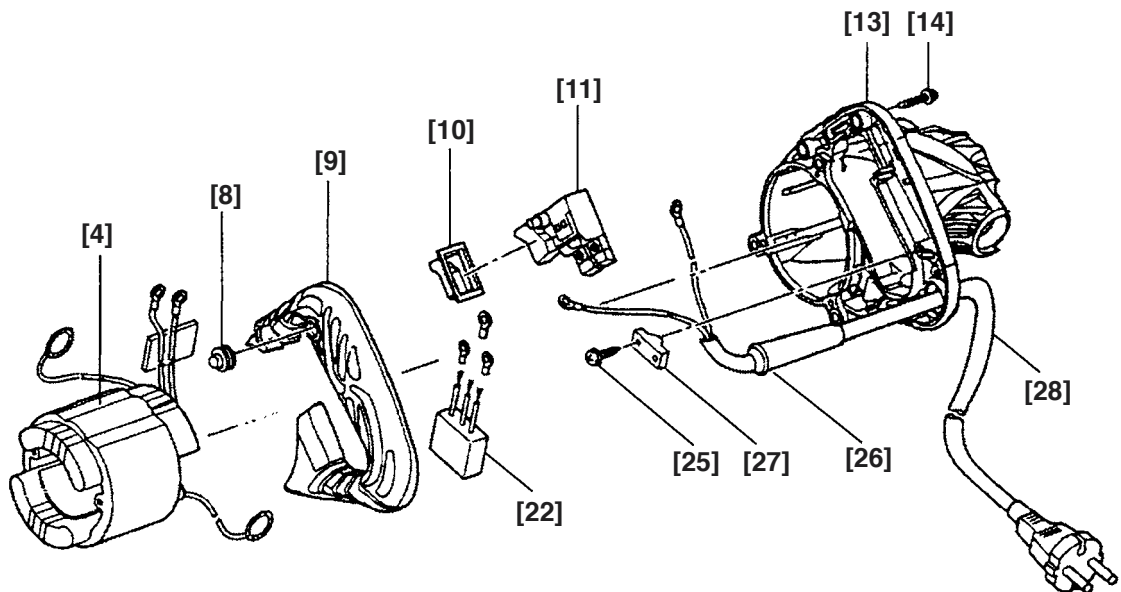

Fig. 9
(8) Disassembly of the Handle Cover [9] and the Switch (1P Screw Type) [11] (Fig. 9)
- ① Remove the three Tapping Screws (W/Flange) D4 x 20 (Black) [14] and remove the Handle Cover [9] from the Housing Ass'y [13].
- ② Loosen the small screw of the Switch (1P Screw Type) [11]. Then the two internal wires coming from the Stator Ass'y [4] and the two internal wires coming from the Cord [28] can be disconnected and the Switch (1P Screw Type) [11], Switch Rubber Cover [10] and Noise Suppressor [22] can be removed from the Housing Ass'y [13]. Remove the two Tapping Screws (W/Flange) D4 x 16 [25], Cord Clip [26], Cord [28] and Cord Armor [27] from the Handle Cover [9].
- ③ Remove Rubber Cover (B) [8] from the Handle Cover [9].